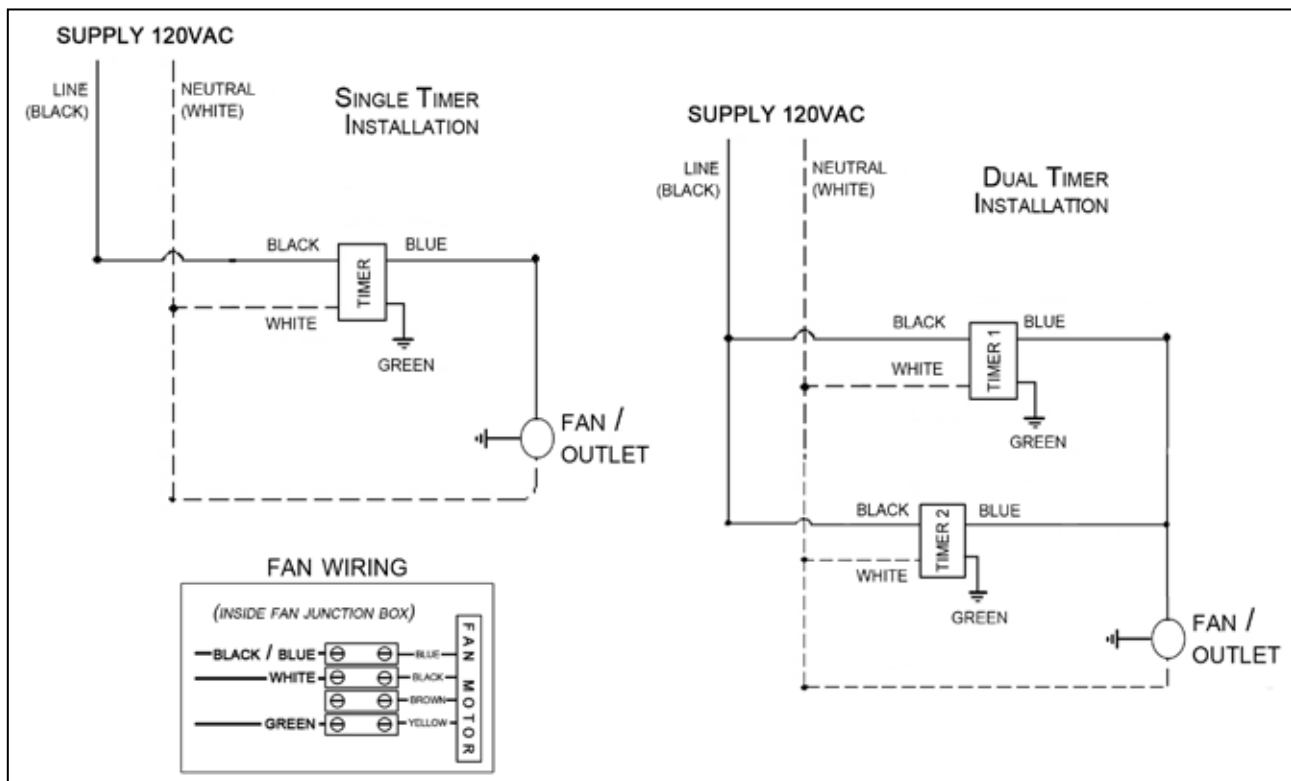

Figure 1. Timer & Fan Wiring
3. Electrical connection: The fan can be plugged into an outlet in the attic using the supplied 3-prong power cord, or alternatively, the power cord can be removed and the fan can be hardwired directly to the timer switch (see **Figure 1. Timer & Fan Wiring**, on page 4). Please consult local codes for standards and/or contact an electrician for further assistance with wiring.